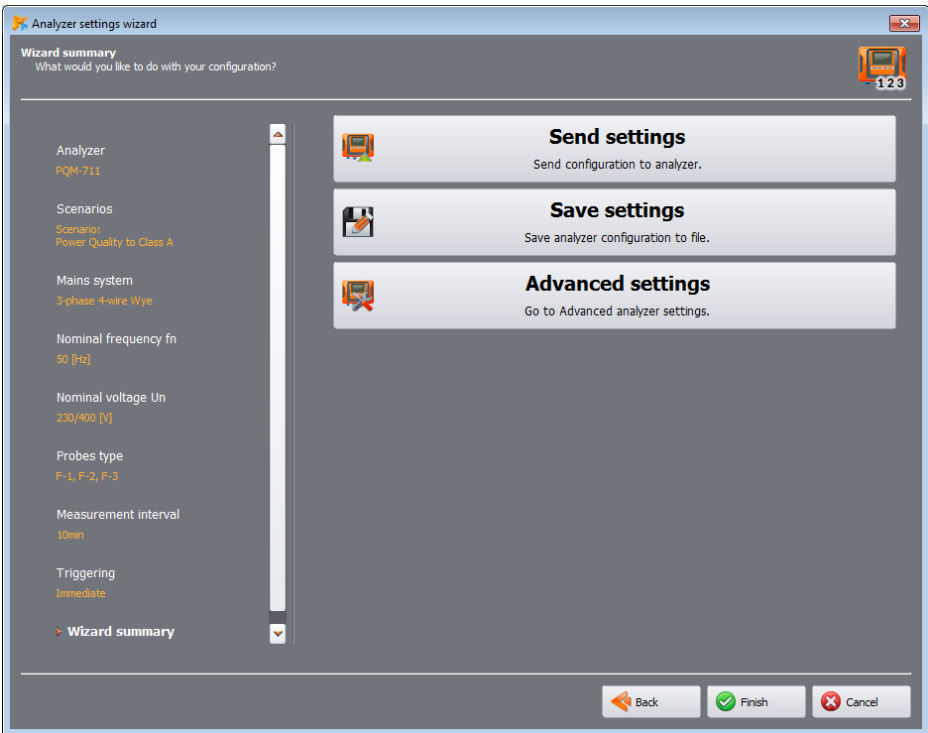

Fig. 15. Settings wizard – summary.
- **WIZARD SUMMARY** – the last step of the wizard (Fig. 15) allowing user to send the created settings to the analyzer (click **SEND SETTINGS**). If the analyzer is not connected, the selection and connection procedure will be started (sec. 2.1), and then the settings will be sent. Note: The entire contents of the memory will be deleted. The wizard as default uses **CONFIGURATION 1** of the analyzer; it also reserves for it the entire analyzer memory space. The setting created with the Wizard may be saved on the disk for later use as a file *.*settings* (option **SAVE SETTINGS**). Alternatively, you can select **ADVANCED SETTINGS**, where the initial settings may be viewed and modified and then sent to the analyzer (window **ADVANCED RECORDING SETTINGS**, will be shown as in sec. 3.2).